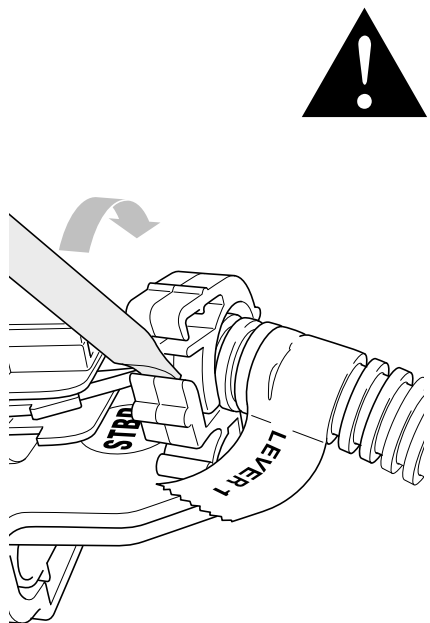
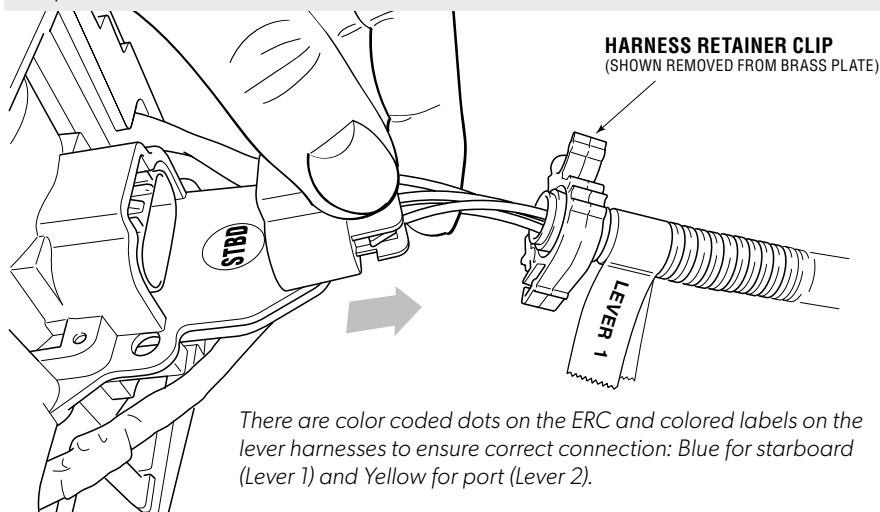

Figure 8-1.
Figure 8-2.
Sensor (LPS) connection on the underside of the Mercury DTS control head. These connections are illustrated in the figure 8-1 and figure 8-2. Although a twin-engine remote control is shown, the connections are identical for a triple or quad engine control.
1. Open the harness retainer clips, located on the underside of the Mercury DTS control head (see figure 8-1).